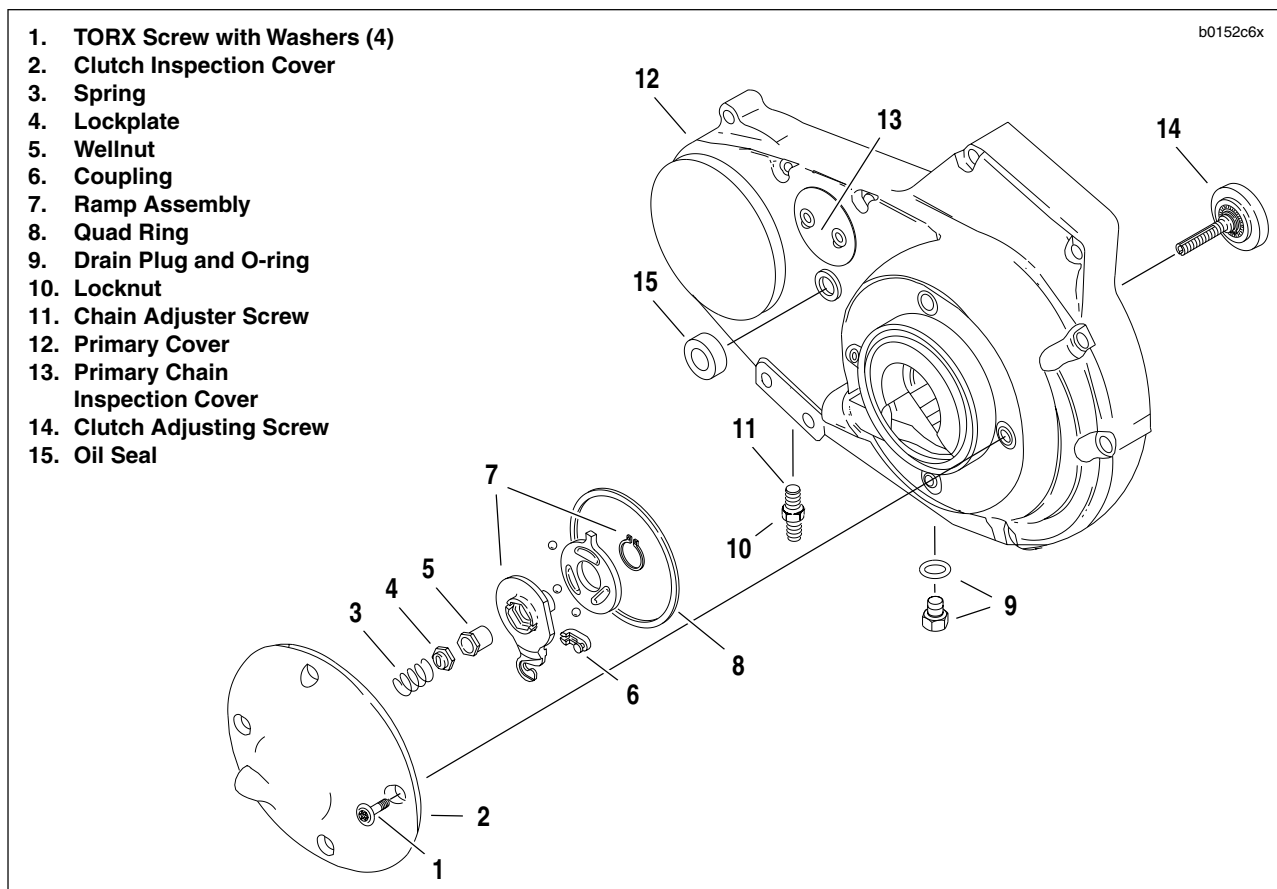
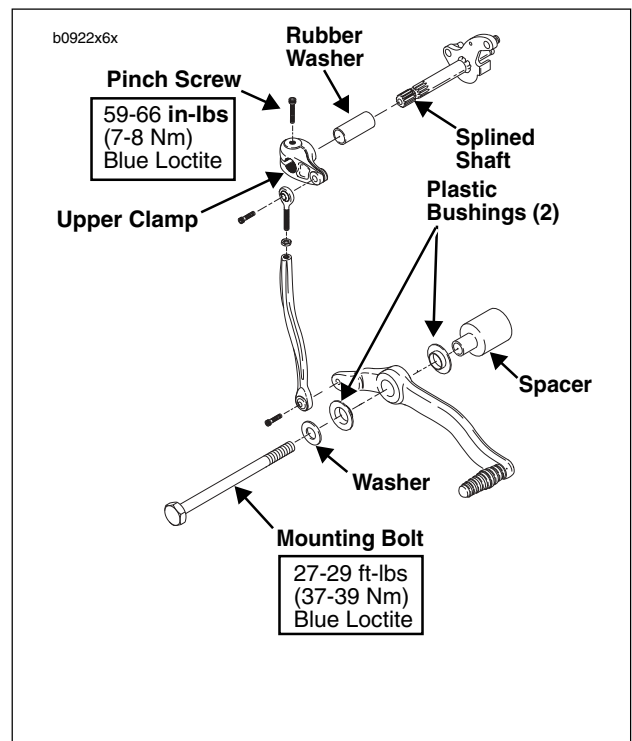

Figure 6-1. Primary Cover
Figure 6-5. Shifter Lever
4. See Figure 6-1. Place a drain pan under the engine. Remove drain plug (9) and drain lubricant from primary drive.
4. See Figure 6-1. Install **new** shifter lever oil seal (15).
5. Fit coupling (6) over cable end with rounded side inboard, the ramp connector button outboard. With retaining ring side of ramp assembly facing inward, place hook of ramp (7) around coupling button and rotate assembly counterclockwise until tang on inner ramp fits in slot of primary cover.
6. Thread wellnut (5) on adjusting screw (14) until slot of screw is accessible with a screwdriver. Fit wellnut hex into recess of outer ramp and turn adjusting screw counterclockwise.
10. See Figure 6-5. Apply LOCTITE THREAD-LOCKER 243 (Blue) to shift lever mounting bolt.